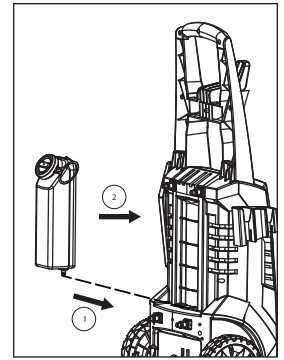

Figure 6 - Assemble the detergent bottle onto unit
4. Assemble the detergent bottle onto unit by inserting the outlet of bottle into the corresponding hole on the unit and then press the bottle onto the unit (See Figure 6).